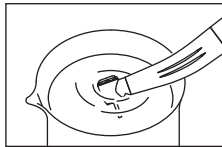

Fig. 21
- 3) Immerse half of the head in clean water while the handpiece is running. (Fig. 21)